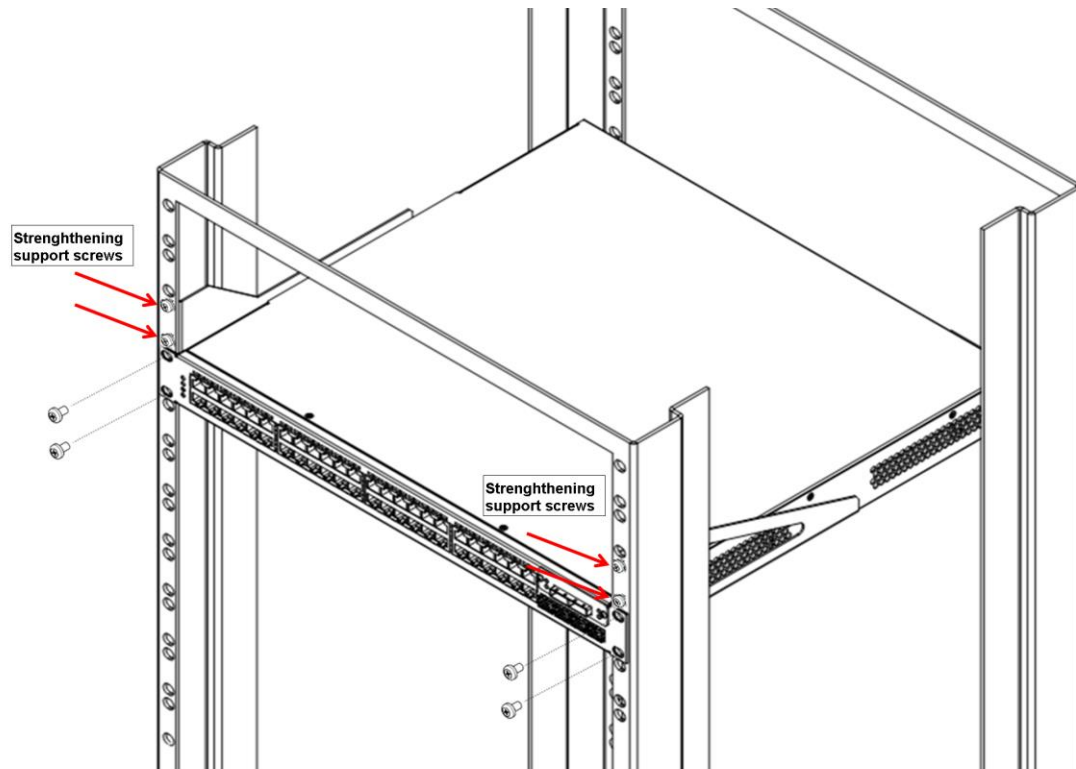

Figure 23. Two DM4100 Chassis with One Strengthening Support
2. Place the equipment's chassis carefully into the rack, ensuring it's precisely conditioned in both sides in the strengthening supports, according Figure 23;